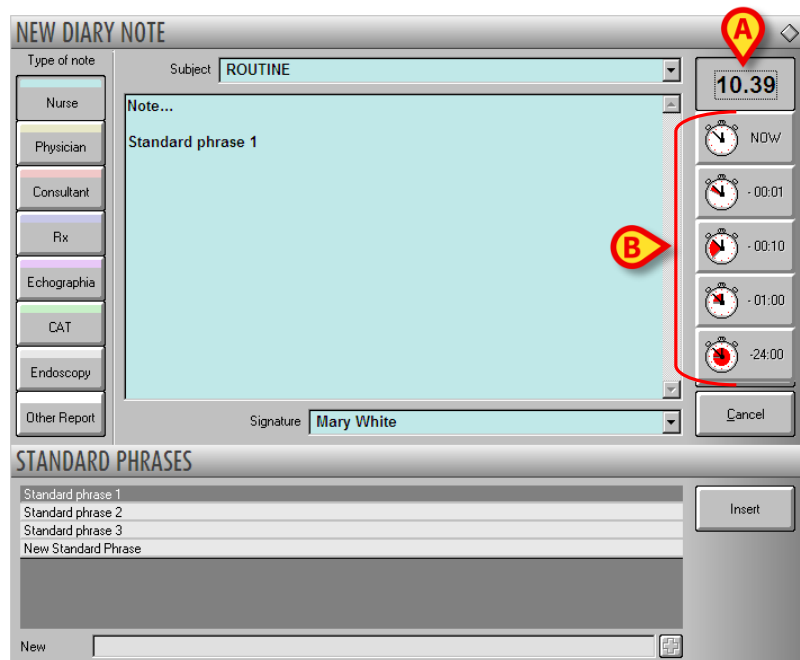

Fig 72
The button displaying the time (hh.mm) on the top right corner of the “New diary note” window (Fig 72 A) makes it possible to specify the time a diary note is entered. By default the button indicates the current time. It is possible to specify a time that is different from the current one.
- click the time-button (Fig 72 A).
Five buttons are displayed beneath it (Fig 72 B).